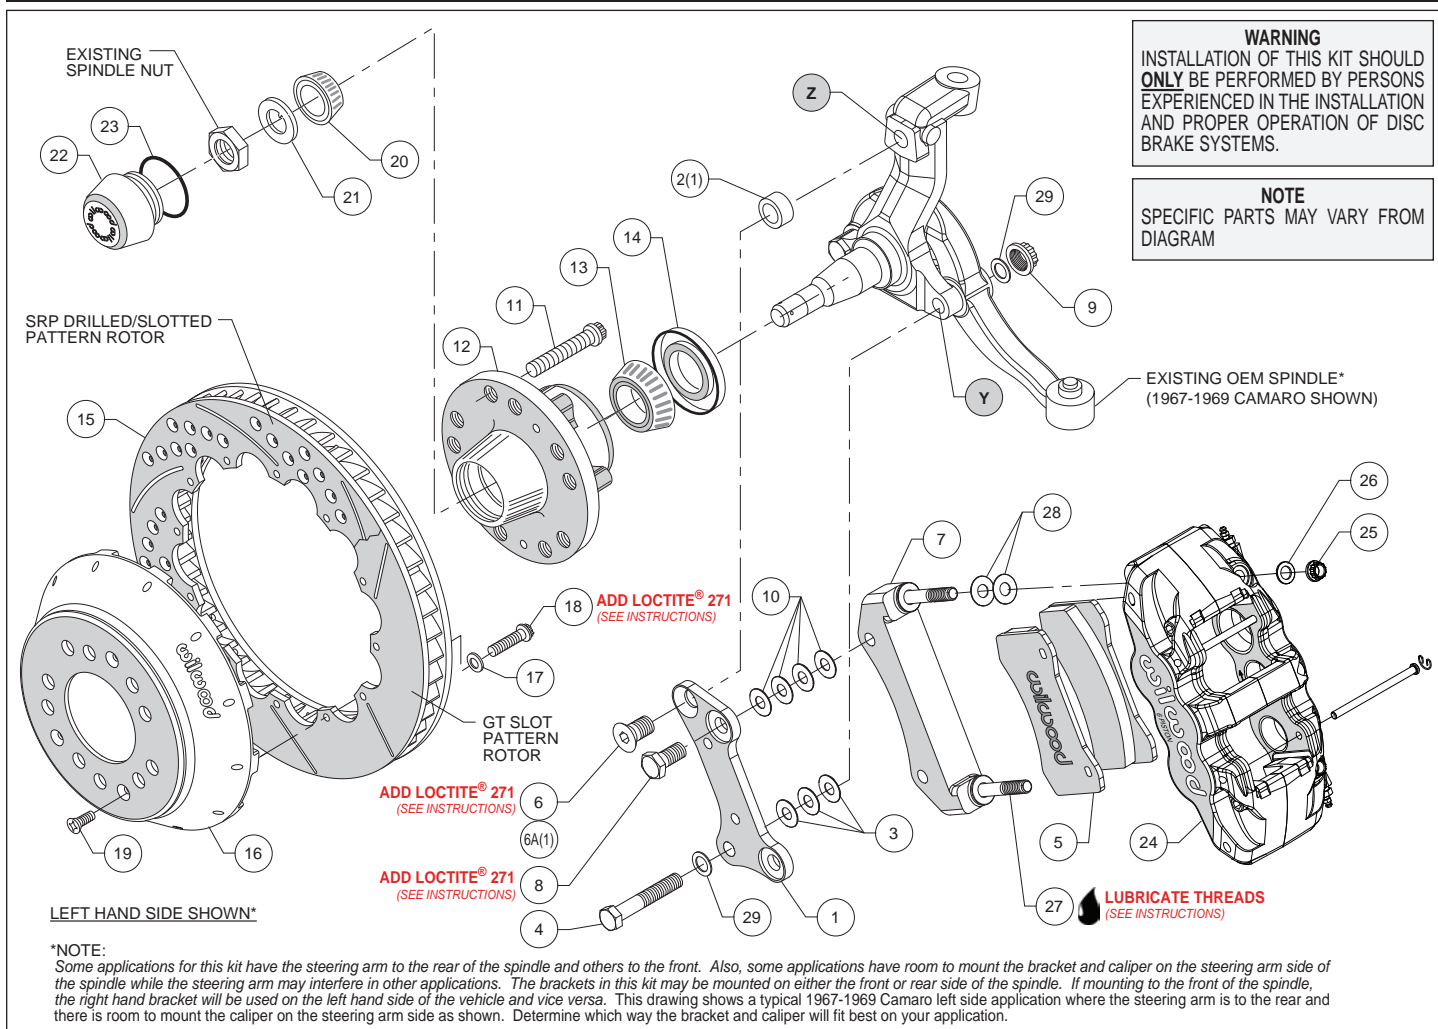
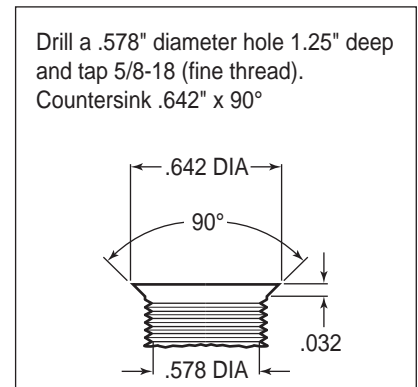
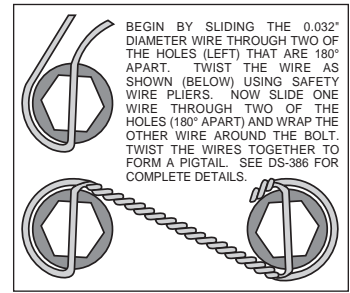

Figure 1. Typical Installation Configuration
Figure 3. Drill and Tap Detail
Figure 4. Safety Wire Diagram
Assembly Instructions (numbers in parenthesis refer to the parts list, and Figure 1 on the preceding pages):
• **NOTE:** Some applications for this kit have the steering arm to the rear of the spindle and others to the front. Also, some applications have room to mount the bracket and caliper on the steering arm side of the spindle while the steering arm may interfere in other applications. The brackets in this kit may be mounted on either the front or rear side of the spindle. If mounting to the front of the spindle, the right hand bracket will be used on the left hand side of the vehicle and vice versa. Figure 1 shows a typical 1967-1969 Camaro left side application where the steering arm is to the rear and there is room to mount the caliper on the steering arm side as shown. Determine which way the bracket and caliper will fit best on your application.
• **NOTE:** Some spindles in this year range may require the following modifications (reference Figure 1 and Figure 3): Top anchor pin hole (Z) must be drilled and tapped to the dimensions as outlined in Figure 3. The lower bolt hole (Y) in the spindle used to mount the new caliper bracket, and the mating steering arm hole, must be enlarged to .50" by drilling. It is recommended these modifications be performed by a qualified machinist.
• Install wheel studs (11) into the hub (12), Figure 1 and Photo 1. Torque to 77 ft-lb. **NOTE:** There are two five lug patterns in the hub (5 x 4.50 and 5 x 4.75). Ensure the correct hub stud pattern is being used to fit the wheel application.
• Pack the large inner bearing cone (13) with high temperature disc brake bearing grease (available from your local auto parts store) and install into the backside of the hub (12), Photo 2.
• Install the grease seal (14) by pressing into the backside of the hub (12), flush with the end of the hub, Photo 2.
• Orient the rotor (15) and the hat (16) as shown in Figure 1 and Photo 3. Attach rotor to hat using bolts (18) and washers (17). Using an alternating sequence, apply red *Loctite*® 271 to the threads, and torque to 155 in-lbs. For an added measure of security, the bolts may be safety wired using standard 0.032 inch diameter stainless steel safety wire as shown in Figure 4. Please refer to Wilwood's data sheet DS-386 (available at www.wilwood.com/Pdf/DataSheets/ds386.pdf) for complete safety wire installation instructions.
- Disc Brake Spindle Application Only:** Follow the instructions below, but instead use bolt (6A), and spacer (2) in the upper bolt hole location, Figure 1.
- Orient the flat bracket (1) as shown in Figure 1 and Photo 4, and install using bottom bolt (4), washers (29), and nut (9), Figure 1. Initially place three .032" thick shims (3) between the bracket and spindle. Install the upper bolt (6 or 6A), Photo 5. Temporarily tighten bolts. **NOTE:** *The bracket must fit squarely against the mounting surfaces on the spindle.* Inspect for interference from casting irregularities, machining ridges, burrs, etc. Temporarily install the hub and hat/rotor assembly. Check that the bracket is aligned parallel to the rotor, Photo 6. If not, adjust by adding or subtracting shims (3) on the lower bolt between the bracket and spindle, Figure 1. Once the bracket alignment is correct, remove the upper bolt (6 or 6A), apply red *Loctite*® 271 to the bolt threads, and torque to 120 ft-lb. Torque the lower lock nut to 65 ft-lb.
- The radial mount caliper bracket (7) should initially be installed with clean dry threads on the mounting bolts. Orient bracket as shown in Figure 1, and install using bolts (8). Initially place four shims (10) on each bolt between the two brackets. Temporarily tighten the mounting bolts. Later, after the caliper alignment has been checked, the mount bolts will be secured using red *Loctite*® 271.
- Pack the small outer bearing cone (20) with high temperature disc brake bearing grease and install into hub (12). Final install the hub assembly onto the spindle. Secure using spindle washer (21), and OEM spindle nut, Photo 7. Adjust bearings per OEM specifications. Install new cotter pin (not included).
- Screw dust cap (22) into hub (12), Photo 8. Friction created by the o-ring (23) on the dust cap keeps it from unscrewing. **NOTE:** *The O.D. of the existing OEM spindle washer may be larger than the I.D. of the dust cap not allowing it to seat against the hub face. Therefore, use the spindle washer (21) supplied with the kit instead of the OEM washer.*
- Final install the hat/rotor (15 and 16) onto the hub (12) taking care to align the small countersunk holes in the hat with the small threaded holes in the hub. **NOTE:** *The hat must fit flush against the hub face or excessive rotor run out may result.* Install three flat head screws (19) through the small holes in the hat (16), Photo 9, and torque to 85 **in-lb**.
- NOTE:** *This kit contains distinct right and left hand calipers that must be mounted in a specific direction, as described below.* Lubricate the caliper mounting studs (27) with lightweight oil. Initially place two .030" thick shims (28) on each stud between the caliper and the bracket, as shown in Figure 1 and Photo 10. Mount the caliper (24) onto the bracket (8) using lock nuts (25) and washers (26), Figure 1. Ensure that the caliper is mounted so the largest pistons are at the rotor exit end of the caliper, in relation to the direction of rotor rotation. Temporarily tighten the lock nuts and view the rotor through the top opening of the caliper. The rotor should be centered in the caliper, Photo 11. If not, adjust by adding or subtracting shims (10) between the flat bracket (1) and the radial mount bracket (8). Always use the same amount of shims on each
- Remove the two pad retaining pins from the caliper (24) by carefully popping out the pin retaining clips and sliding out the pins. Insert the brake pads (5) into the caliper from the bottom, Figure 1, Photo 12. With the friction material facing the rotor, secure the brake pads in place with the pad retaining pins and clips, Photo 13. Reinstall the caliper onto the caliper mounting bracket and temporarily tighten the lock nuts. Check that the top of the brake pad is flush with the outside diameter of the rotor, Photo 14. If not, adjust by adding or subtracting shims (28) between the caliper and the bracket. After the caliper pad height is set, torque the caliper lock nuts (25) to 47 ft-lb.